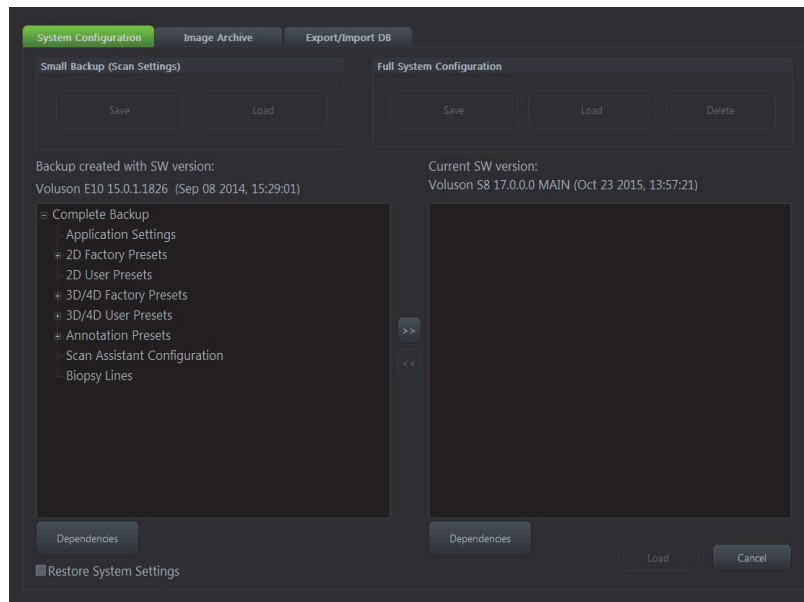

Figure 4-14 Load Backup Data
- 2.) Select the “**Complete Backup**” (marked blue; see: Figure 4-14 below) and click the >> button to copy the Complete Backup into the Load Data field.